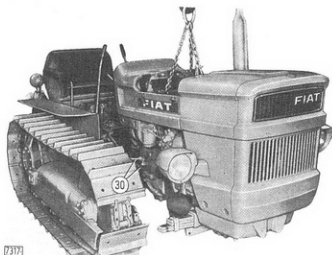

Fig. 120 - Removing (or Refitting) Engine/Gearbox Unit using Lifting Chain Part No. 290740
Separate the engine/gearbox unit from axle as follows (see Fig. 120):—
- Disconnect lines (30, Fig. 120) from hydraulic lift pump, plug and move out of the way.
- Apply lifting chain Part No. **290740** to the eyes provided on the engine, take up the weight with a tackle, remove bevel drive/gearbox retaining screws and lift engine/gearbox unit as shown in Fig. 120.